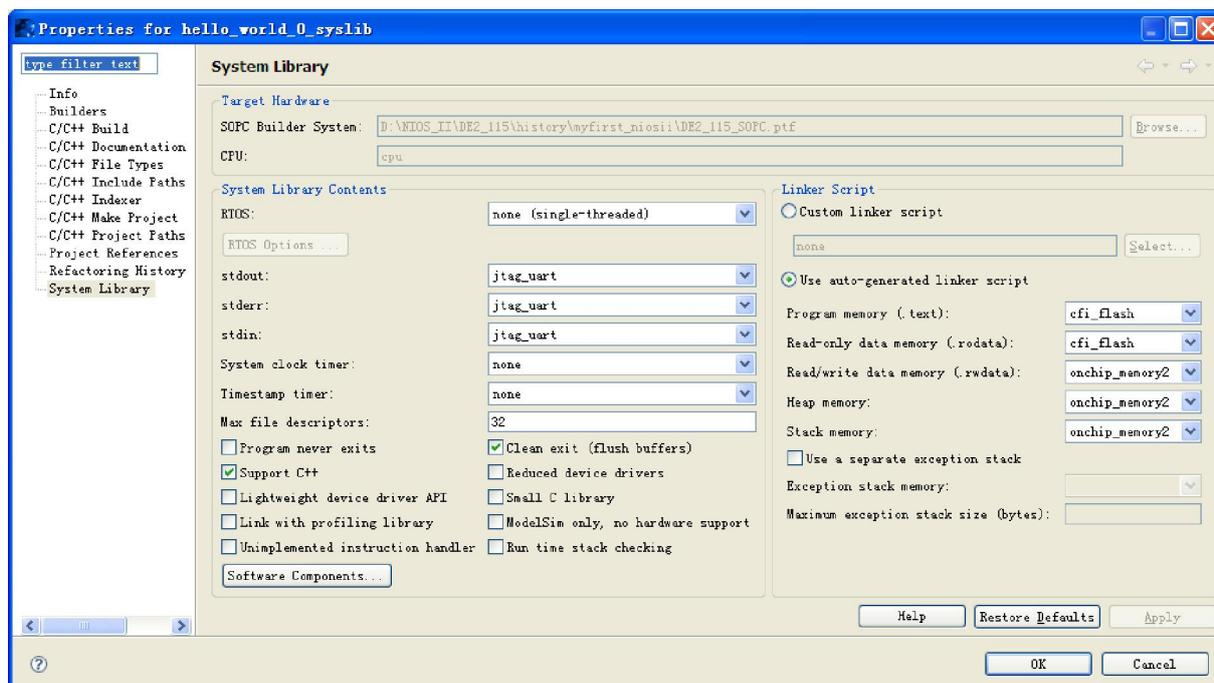

Figure 3-13 System Library
2. Choose **cfi_flash** for **Program Memory** and **Read-only data memory**. See Figure 3-13.